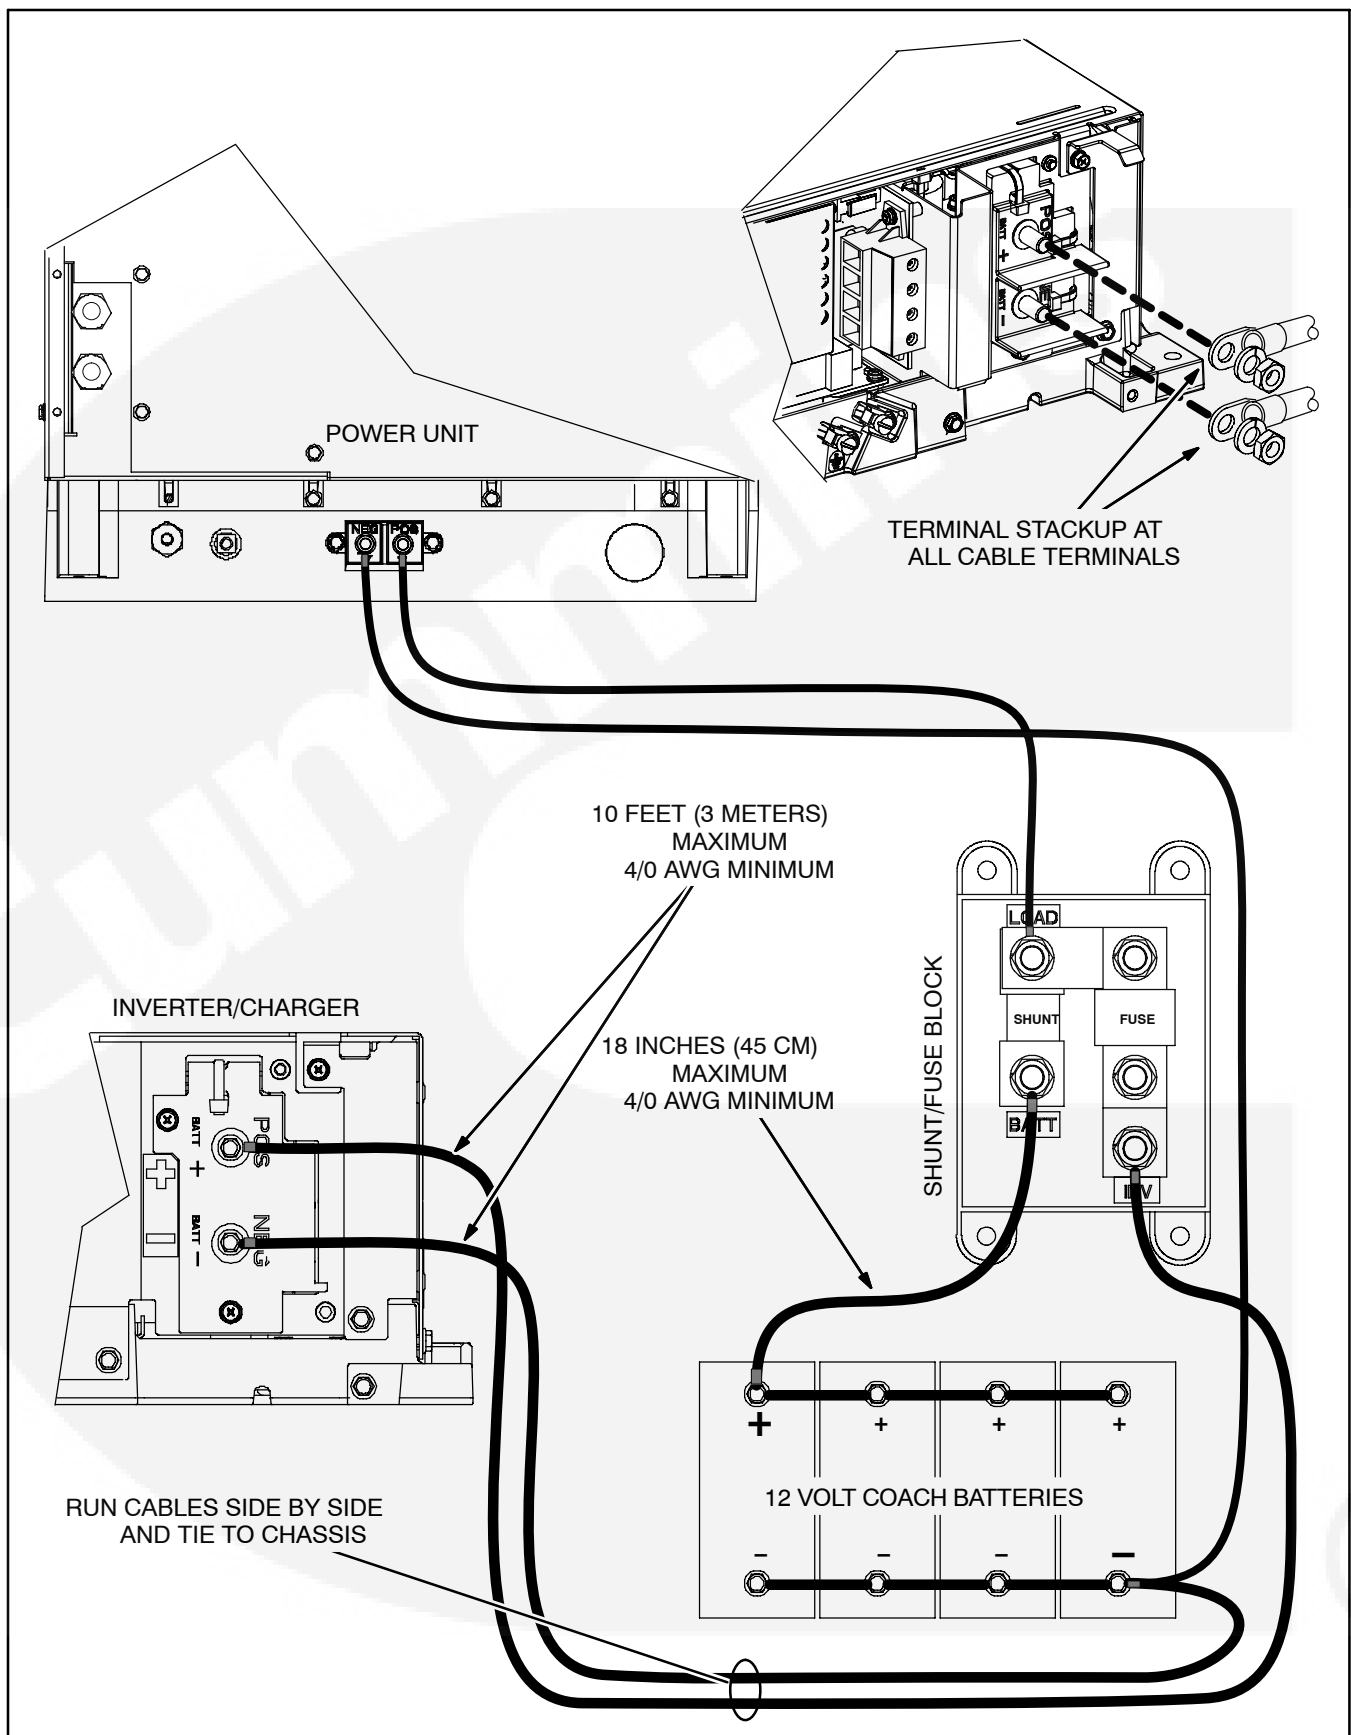

FIGURE 6-1. TYPICAL COACH BATTERY CABLE CONNECTIONS
Figure 6-1 illustrates how to connect the Inverter/Charger and Power Unit to the batteries. The cable from the Shunt/Fuse Block should be the only cable connected to the positive (+) terminal of the Coach Batteries.
2. Disconnect the Inverter/Charger (Figure 6-1) from the Coach Batteries observing the proper Battery Disconnect Sequence (p. 6-4).